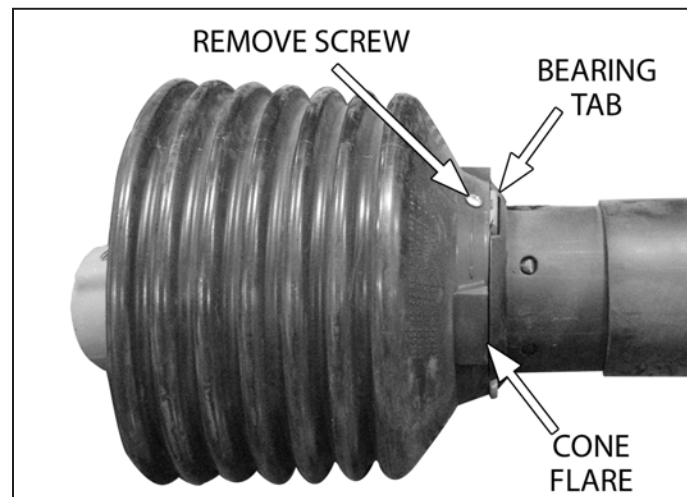

Figure 4: Removing the shield tube
1. Using a Phillips screwdriver, remove the screw at the flexible cone base of the outer shield tube. Then, twist the flexible cone until the cone flare aligns with the bearing tab (Figure 4). Pull the yoke and inner profile out of the tubing.